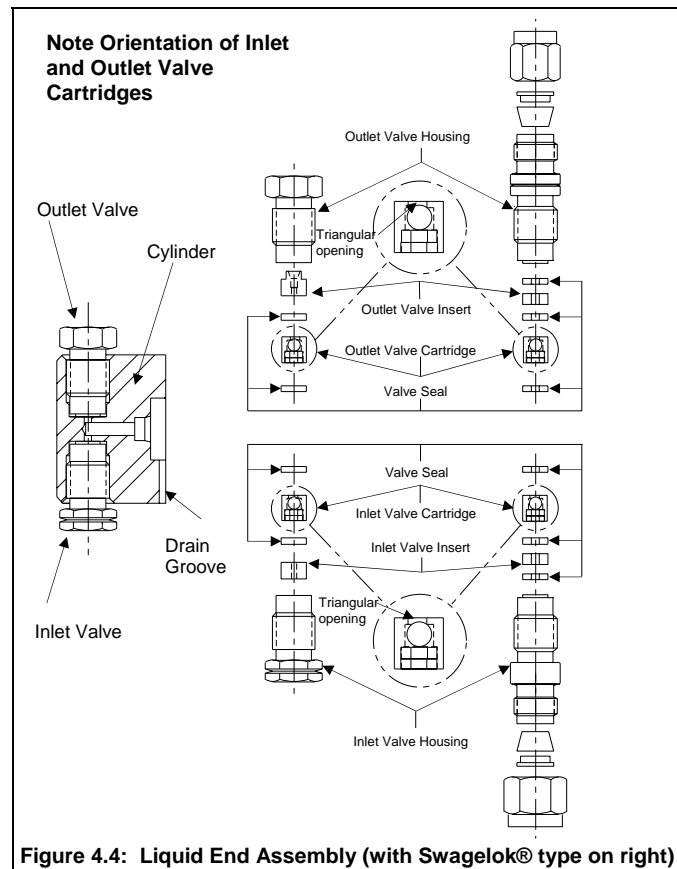

Figure 4.4: Liquid End Assembly (with Swagelok® type on right)
The valves are the two hexagon-shaped components on the liquid end assembly (see Figure 4.4). Inlet valves can be distinguished from outlet valves by the groove on the hexagonal part of the valve. To prevent the internal components of the valve from falling out upon removal keep the pump in its normal position when removing the inlet valve and turn the pump upside down when removing the outlet valve (**CAUTION:** when appropriate, be sure to plug the oil hole on the top of the motor gearbox before turning the pump upside down). Remove the valves with a 1/2” wrench, turning in a counter-clockwise direction. After removal, be careful to keep the valve oriented so the translucent washers face upwards. If you wish to replace the cartridge in the valve, you may purchase replacement cartridges, which include the cartridge and instructions.
3. Reassemble the valve by placing the valve insert in the valve housing using the larger (3/16”) dowel pin provided (1373 and 1374 valves use a total of 3 washers, one is installed before installing the valve insert). Make sure it is oriented correctly (see Figure 4.4). Press a new CTFE seal into place. Slide the valve cartridge into the valve housing making certain it is oriented correctly. Press another new CTFE seal into place. The CTFE seal will extend approximately 0.020 – 0.030” from the valve housing.